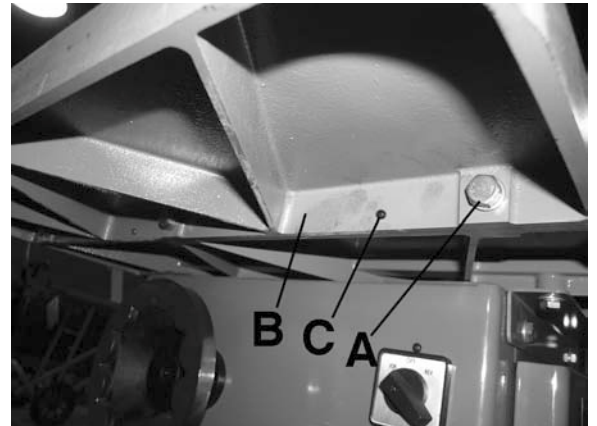

FIGURE 4
- 2) Put three bolts with spring washers and washers (A) Fig.4 through the extension table (B) and thread them into the tapped holes at the front of the shaper. Leave them loose for now.
- 7) Once you've secured the extension table, inspect your results. If the extension table is slightly tilted either up or down, adjustments can be made to level both tables. This can be done by using set screws (C) located next to the three mounting bolts. Place a straight edge on both the table and extension table, adjust the set screws until the extension table is level with the straight edge on the working table. Turn set screw clockwise to lift the table and counterclockwise to lower the table. You may have to loosen the table mounting bolts slightly.